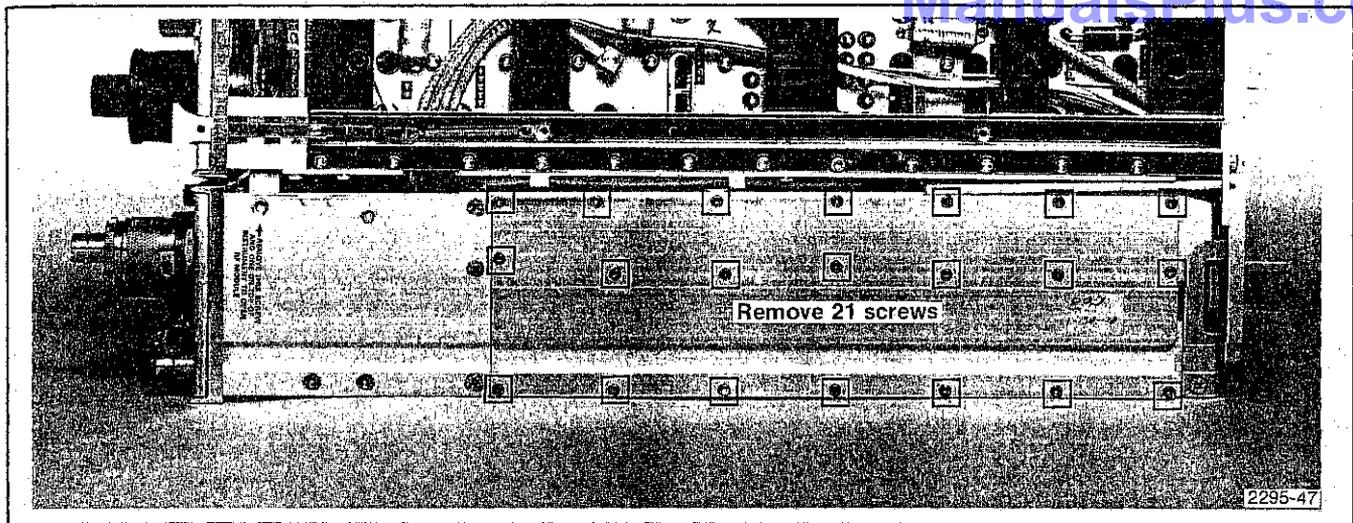

Fig. 4-39. Bottom of 7L18 Showing Location of 510 MHz IF Module.
a. This procedure requires the removal of the cover plate shown in Fig. 4-39. Use a 5/64" Allen driver to remove the 21 screws.